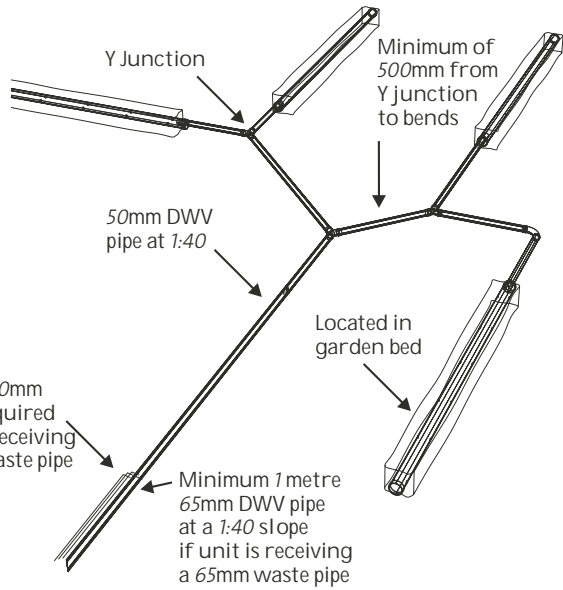
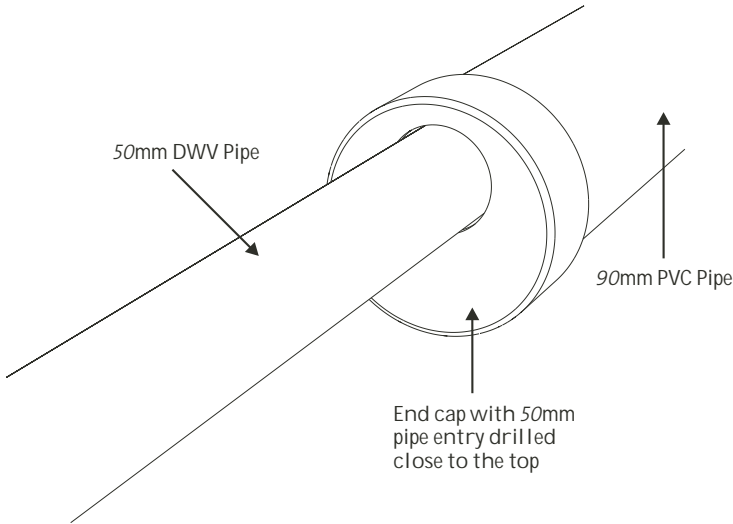

Figure 5
Figure 9
- > When a single Greywater Diverta™ is used for multiple fixtures and this necessitates a 65mm waste pipe connection must be used, then the first metre of distribution pipe should (as a minimum) also be 65mm DWV pipe so the irrigation line can cope with surges exiting the unit. Then a 65mm to 50mm DWV reducer fitting can be used to reduce the distribution pipe back to 50mm DWV (figure 5).
- > A number of 50mm Y junction Greywater Diverta™ flow splitter fittings suitably located along the 50mm distribution pipes to evenly split and distribute the filtered grey water to each of the intended irrigation trenches (see figure 5).
One of the 90mm pipe end caps has a suitable hole be drilled through it for connecting the 50mm DWV distribution pipe (see figure 9).
- Joins between the 50mm DWV pipe, Greywater Diverta™, Y junctions and other couplings are permanently glued together using PVC cement. Connection of the 50mm DWV pipe to the 90mm irrigation trench pipe end cap is inserted loosely and not glued (see Figure 9).
4. Layout the distribution pipe, Y junctions and trench pipe on the ground surface ensuring the distribution pipe can connect into the end of the irrigation trench pipe (see figure 9.) The Y junctions must be located on the distribution so that the 50mm inflow distribution pipe has no bends or elbows located within 500mm of it connecting into the Y junction, as bends can cause turbulence in the flow and effect the Y junction's ability to achieve an equal split of the water (see figure 5).
9. Connect each of the 50mm distribution pipe ends into their intended 90mm irrigation trench pipe end cap ensuring the 50mm pipe is inserted into the drilled end cap so grey water will enter the upper level of the 90mm pipe (see Figure 9).
9. Connect each of the 50mm distribution pipe ends into their intended gomm irrigation trench pipe end cap ensuring the 50mm pipe is inserted into the drilled end cap so grey water will enter the upper level of the 90mm pipe (see Figure 9).